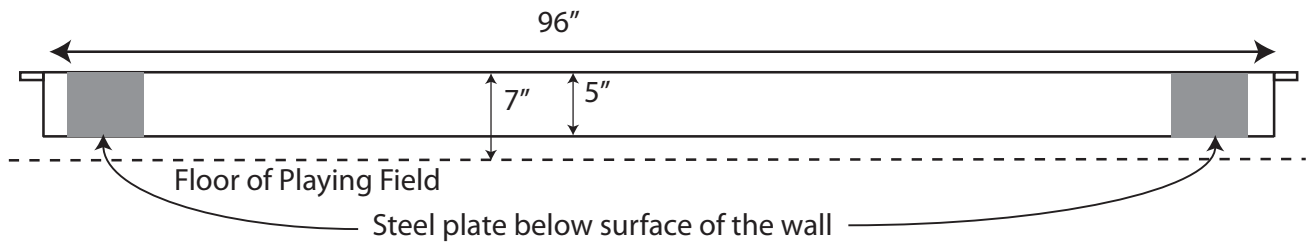

Fig. 3 The Rotating Wall (Side View)
- The dimensions of the rotatable wall will be as shown in Fig. 3.